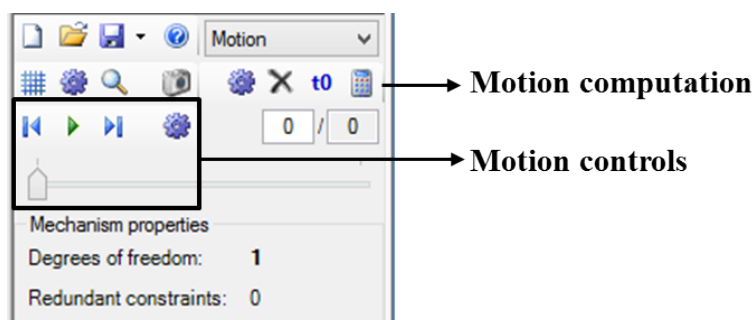

Figure 7: Motion controls of Motion module
2. The top horizontal bar containing, on the one hand, the icon that serves to compute the motion (the *calculator* icon) and, on the other hand, the controls of the motion simulation (play/pause, next step, previous step). Besides, just below the motion controls, it is displayed the number of degrees of freedom, and the number of redundant constraints (see Fig. 7).